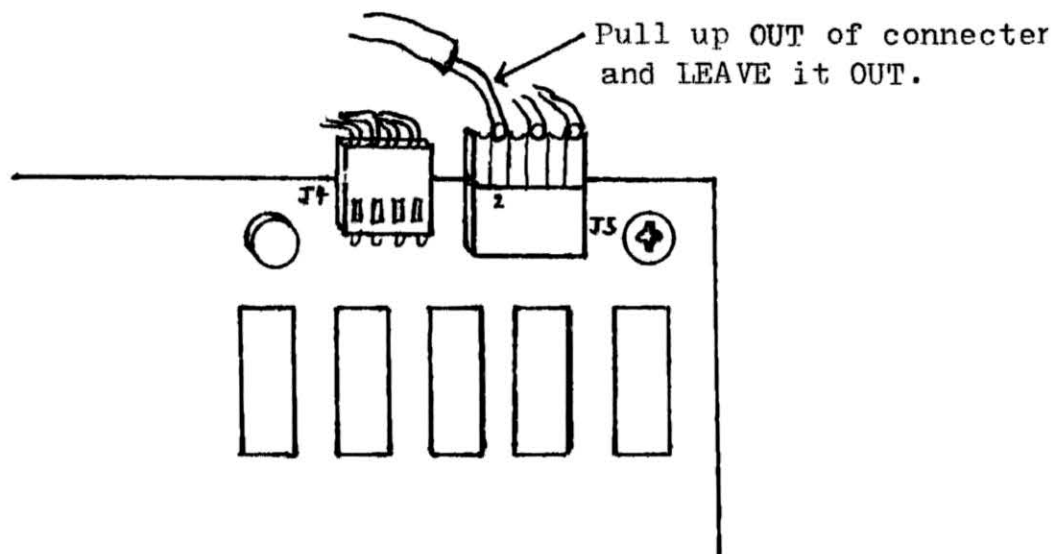

Figure 3.
10. Now all you have to do is connect the remaining micro-clips. The brown micro-clip is unique in that it clips onto a wire instead of an IC. The wire, shown in Figure 3, is in the second slot of the rightmost connector at the top of the TRS-80 main board. This wire should be pulled up OUT OF THE CONNECTOR and one-fourth an inch of